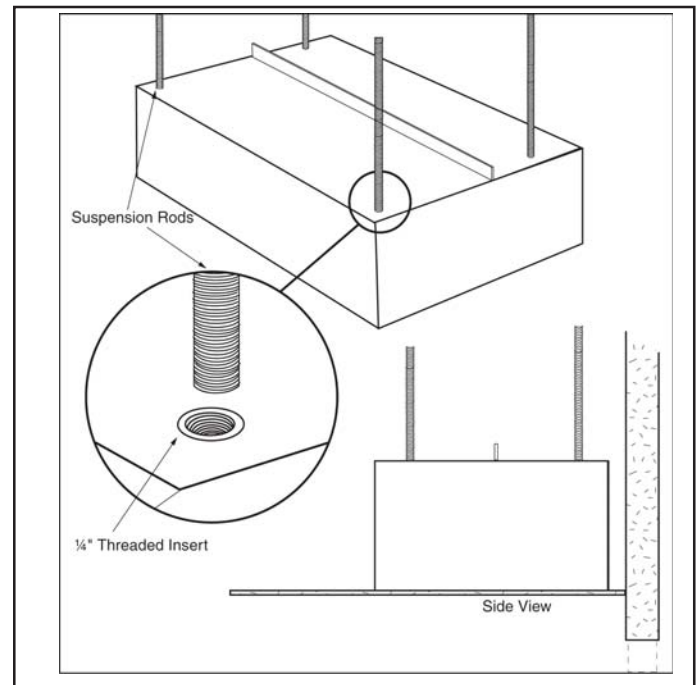

FIGURE 5
- E. Suspend cabinet by attaching threaded rods to the unit and support structures. Adjust unit position so the bottom of the cabinet is flush with the underside of the ceiling. **See FIGURE 5**